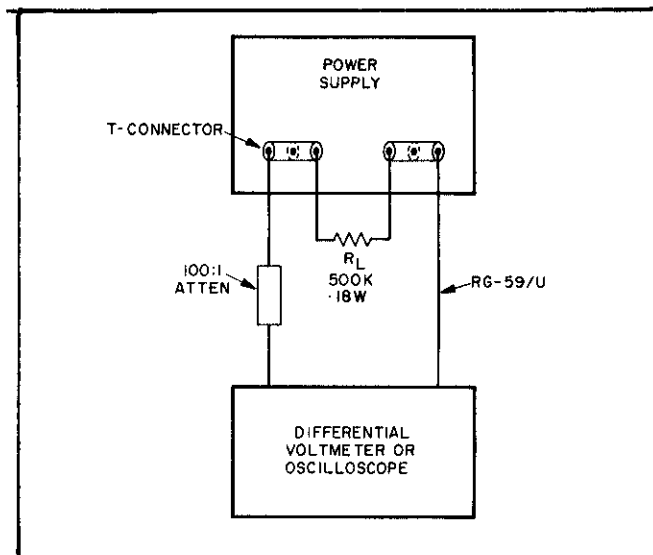

Figure 5-3. Line and Load Regulation, Test Setup
- a. Connect the differential voltmeter, load resistor, and the attenuator to the power supply as illustrated in Figure 5-3. Load resistance is approximately 500K ohms, 18 watts.
- a. Connect differential voltmeter, load resistor and attenuator to the power supply as illustrated in Figure 5-3.
- Connect differential voltmeter, load resistor, and attenuator as illustrated in Figure 5-3.
a. Connect the load resistance, attenuator, and differential voltmeter as illustrated in Figure 5-3.